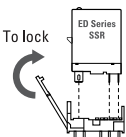

fig. 2 PCBSED Socket Mounting
- ◆ Insert ED Series SSR into PCBSED socket observing terminals' orientation (fig. 2).
- ◆ To retrieve the ED Series SSR from socket, first unlock latching mechanism, as shown in fig. 2, then gently pull the SSR.